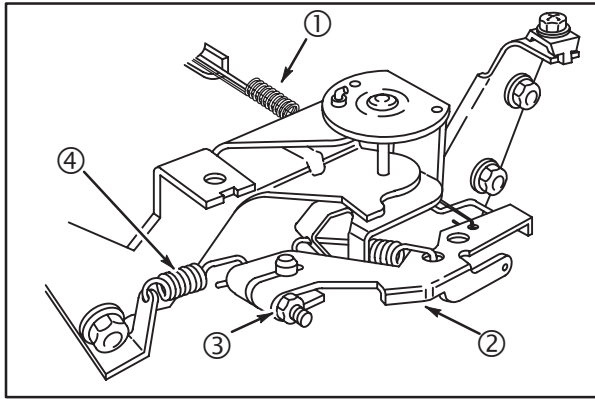

Fig. 5
1. Disconnect governor link and spring (1) at carburetor, **Fig. 5**.
- Loosen governor lever nut (3).
- Remove governor lever (2) from shaft.